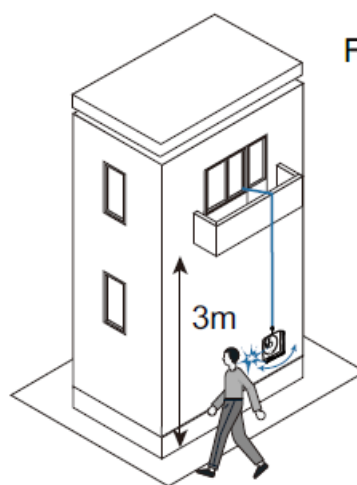

Figure 2
2. The length of the safety rope to be secured should be calculated based on the actual distance from the window being cleaned to the ground below, taking into account the length of the safety rope to prevent it from falling and hitting items belonging to neighbors downstairs or pedestrians on the street. Refer to Figure 2.